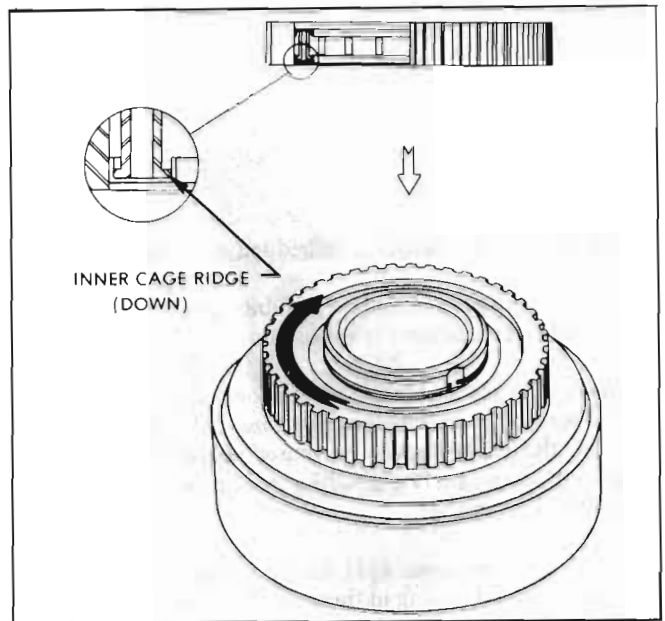

Figure 76-213
**NOTE:** Outer race should not turn counterclockwise after installation. See Figure 76-213.